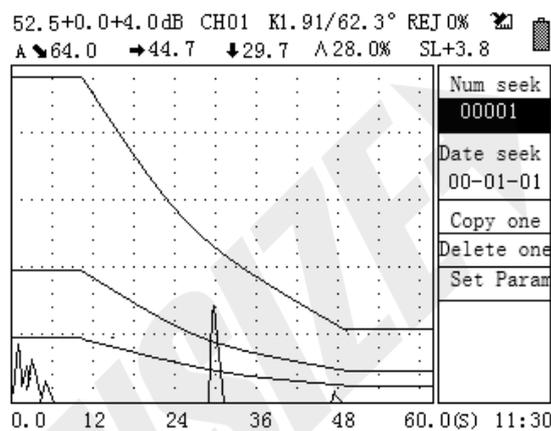

Figure4-13
corresponding file, and press  to view it (the right menu bar num seek or date seek is in the inverted state), as shown in Figure 4-13, or to copy data (the right menu bar copy one is in the inverted state), or delete the data (the right menu bar delete one is in inverted state), or call the data to the current channel and overwrite the original parameters of the current channel (the right menu bar set param is in inverted state).
C. As shown in Figure 4-13, when the file is in the viewing state, the screen displays the waveform and detailed parameters of the viewed file. At the same time, the right menu bar